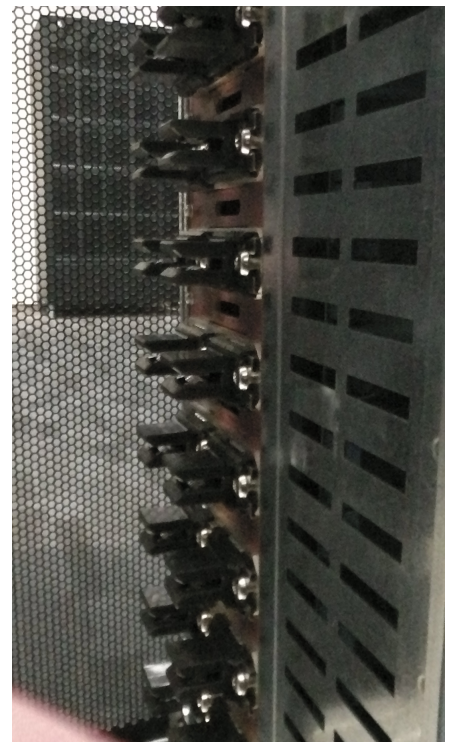

Figure 2.5 Power locking handle ON (closed)
*Note: Figure 2.5 shows the correct positioning of the module slider, with the runners on the slider aligned with the internal runners on the bottom of the module frame.*
In Figure 2.5 the handle is in the ON (closed) position, and shows that the power connectors are extended from the back of the module. In this case the connectors will plug into the busbars running across the back of the module frame to connect the module to the input mains, battery and UPS output power supplies connected in the distribution frame.